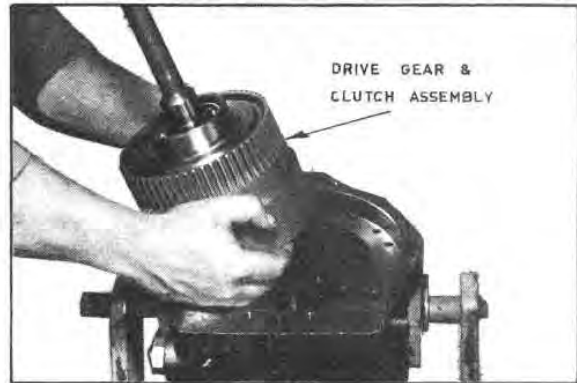

Fig. G28 — The Drive Gear and Clutch Assembly
14. Lift the drive gear and clutch assembly from the housing (Figure G28).